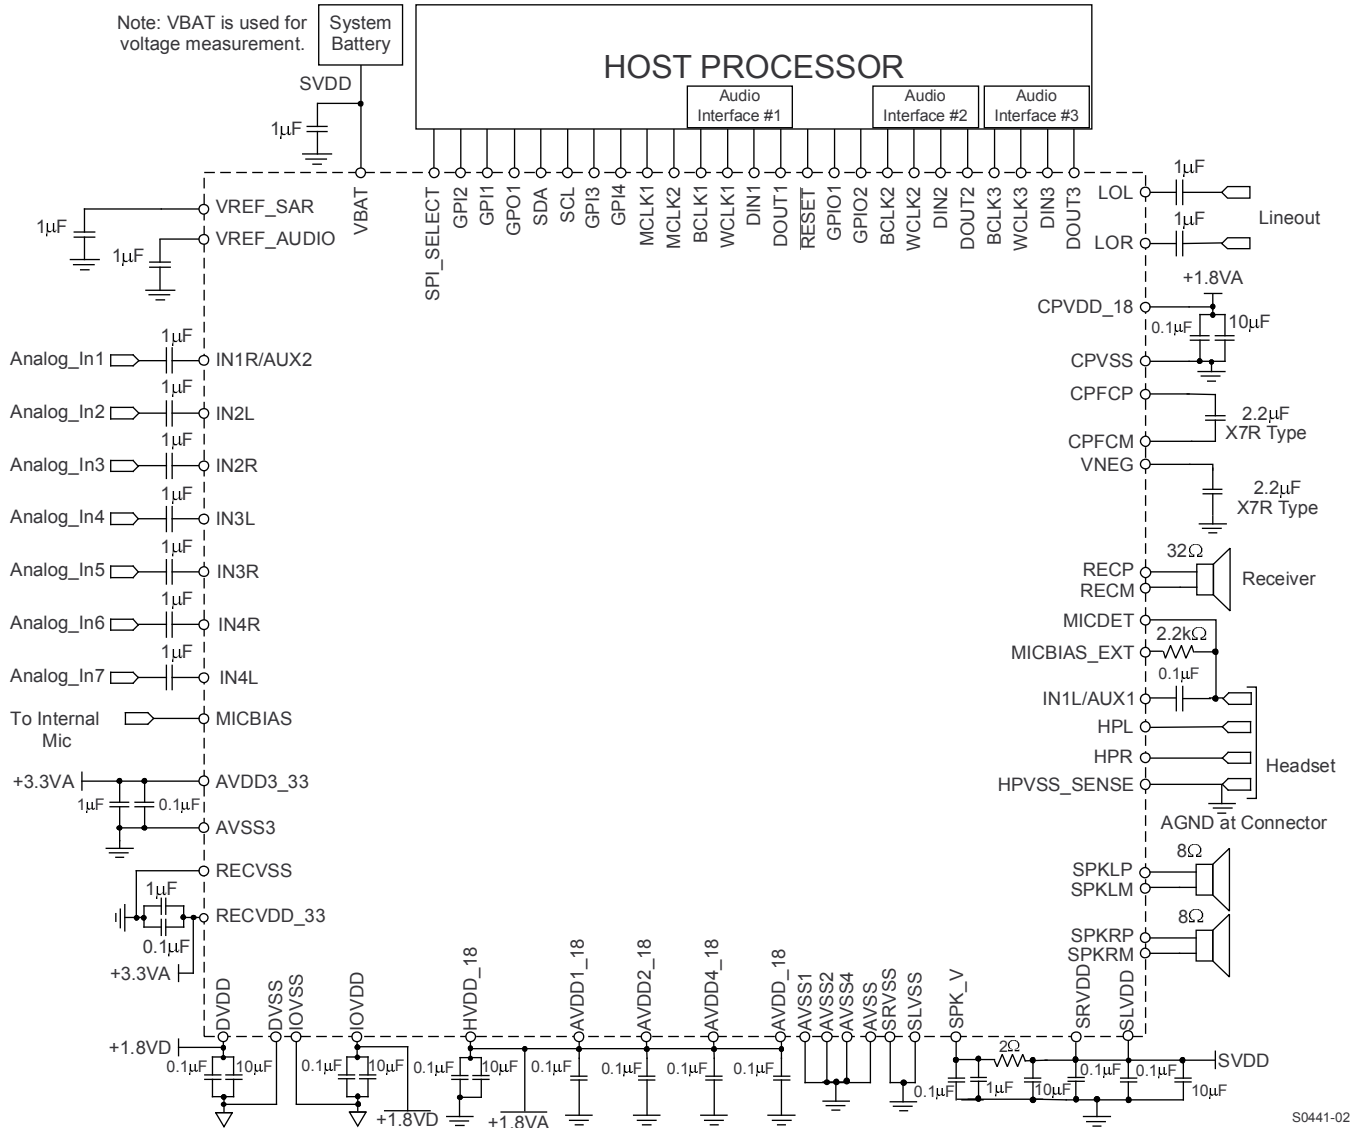

Figure 33. Typical Circuit Configuration
Figure 33 shows a typical circuit configuration for a system utilizing TLV320AIC3212. Note that while this circuit configuration shows all three Audio Serial Interfaces connected to a single Host Processor, it is also quite common for these Audio Serial Interfaces to connect to separate devices (for example, Host Processor on Audio Serial Interface number 1, and modems and/or Bluetooth devices on the other audio serial interfaces).
- The decoupling capacitors for the power supplies should be placed close to the device terminals. Figure 33 shows the recommended decoupling capacitors for the TLV320AIC3212.